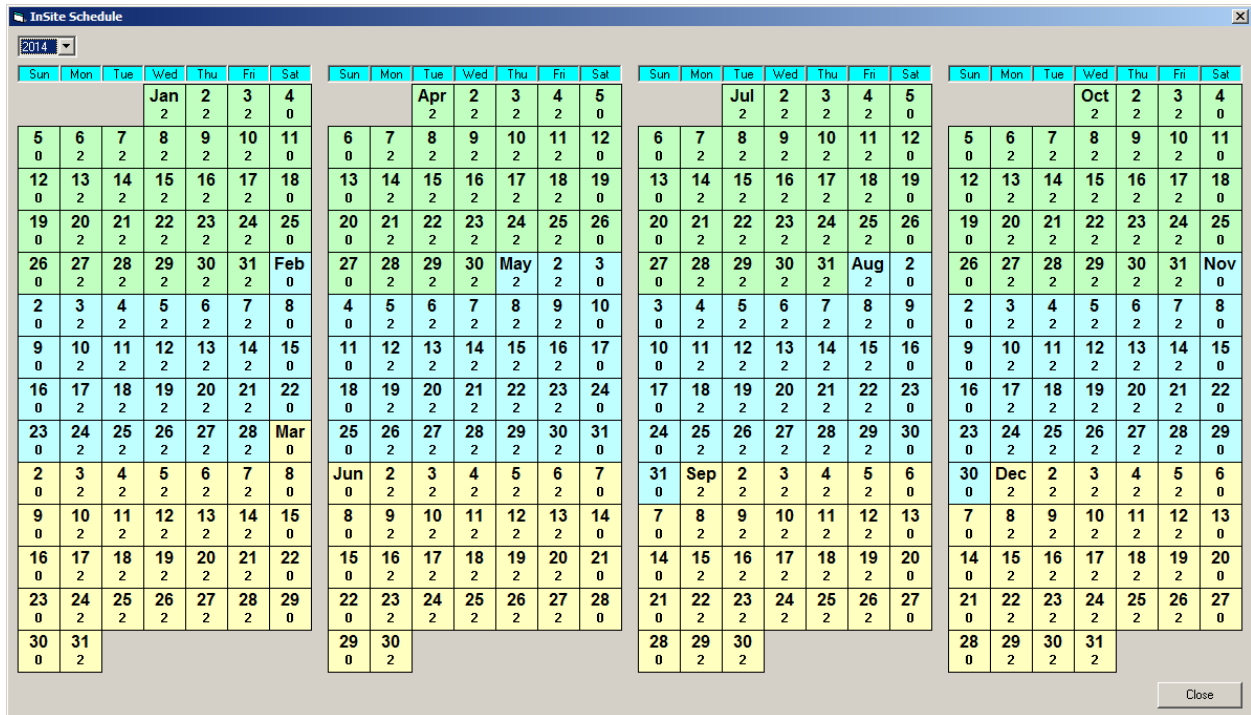

Figure 2.19 Full Year Calendar
3. From the calendar as shown in figure 2.19, select the date desired to view. This will open the events overview for the date. Note: The total number of events associated to the date will be displayed for each calendar day.